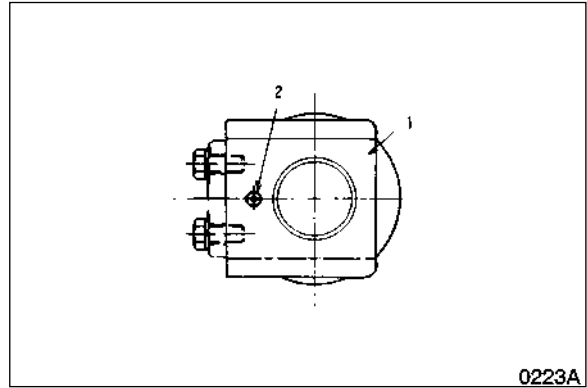

Figure 21
1. Remove plug (2, Figure 21) and drain oil from roller assembly (1).